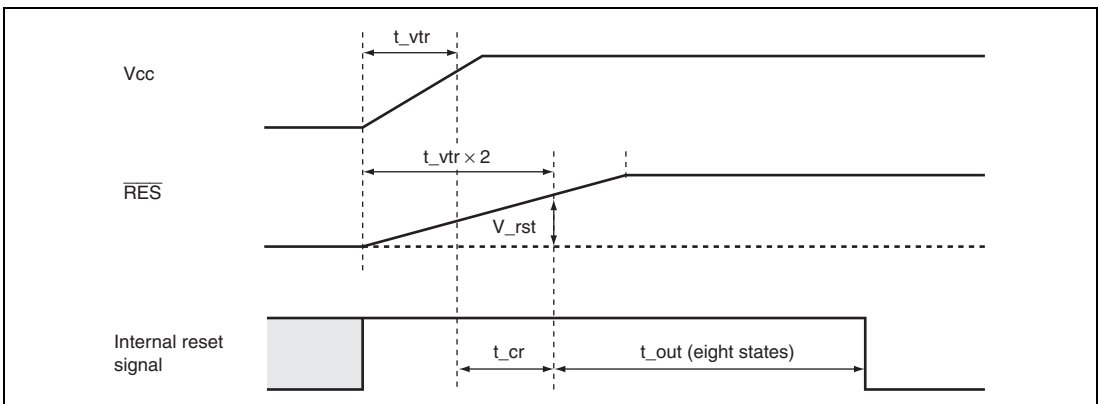

Figure 23.1 Power-On Reset Circuit Reset Timing
3. For details on the power-on reset characteristics, refer to table 23.16 and figure 23.1.